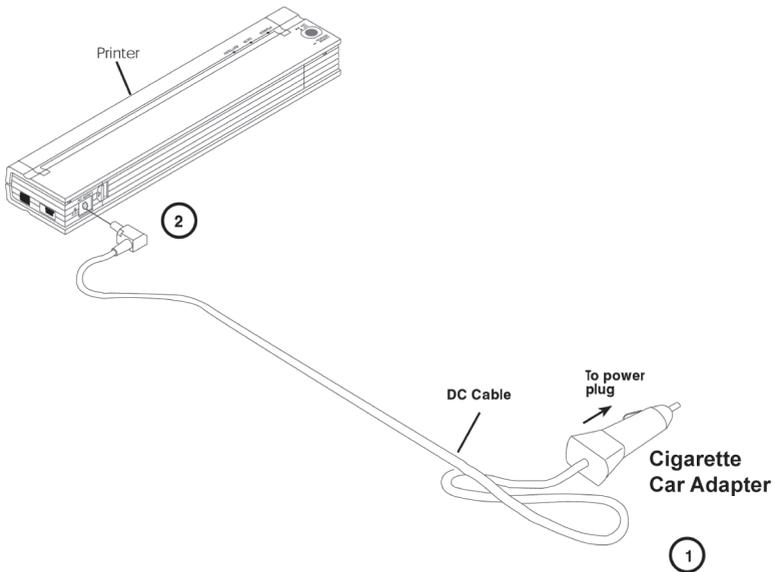

Figure 3. Connecting the printer to DC power
1. Connect an appropriate power cord (either with a cigarette plug or direct wired) to the vehicle 12VDC supply as shown in Figure 3. (These items are available as options. See Chapter 8.)